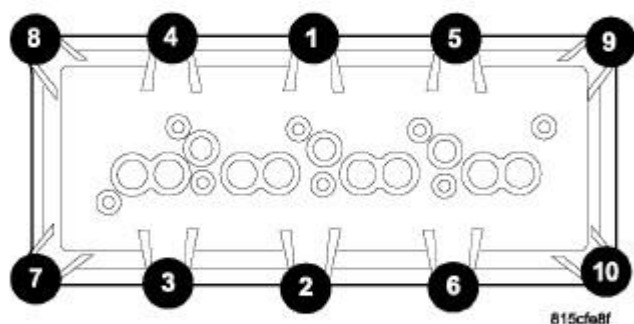

Fig. 108: 5.7/6.1L COVER TORQUE SEQUENCE
7. Using the sequence shown in **Fig. 108**, remove the cylinder head cover retaining bolts and remove the cylinder head cover. See Engine/Cylinder Head/COVER(S), Cylinder Head - Removal.